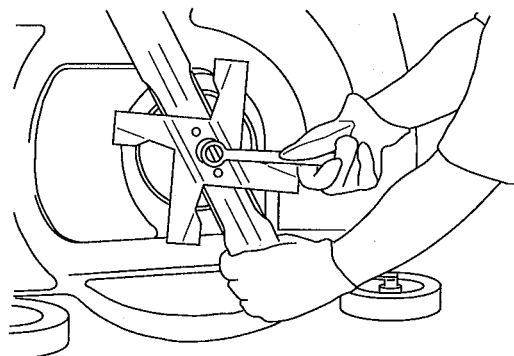

Figure 32
3. Install mulch fan into blade recess and secure with blade nut (Fig. 32).